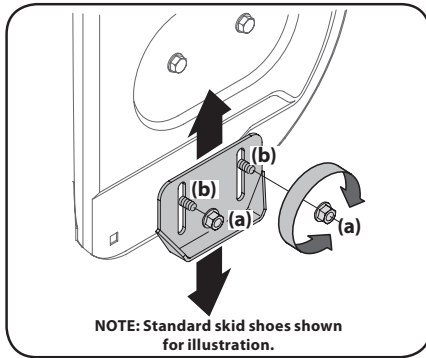

Figure 2-47
1. Loosen four hex nuts (a) (two on each side) and carriage bolts (b). Move skid shoes to desired position. See Figure 2-47.
NOTE: The skid shoes on your unit may look slightly different (and have different hardware) than ones shown in Figure 2-47.